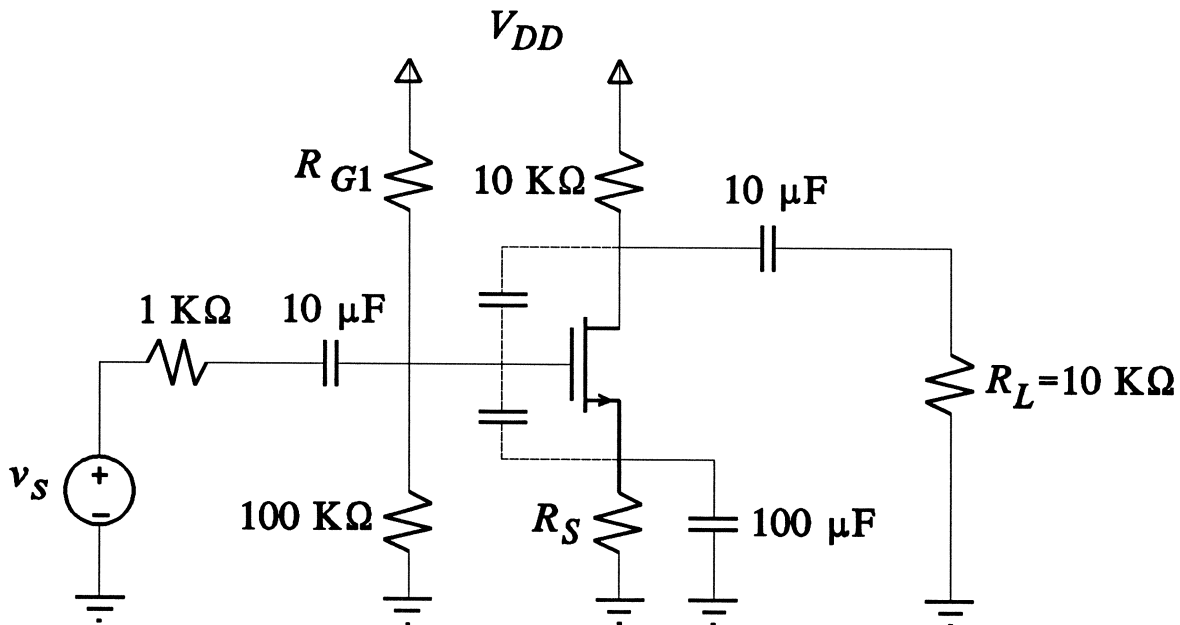

Fig. L5 A simple single-stage amplifier.
- (3) Show your results to the instructor.
**Experiment 2: Statistical Design Centering of a Small-Signal Amplifier (Fig. L5)**